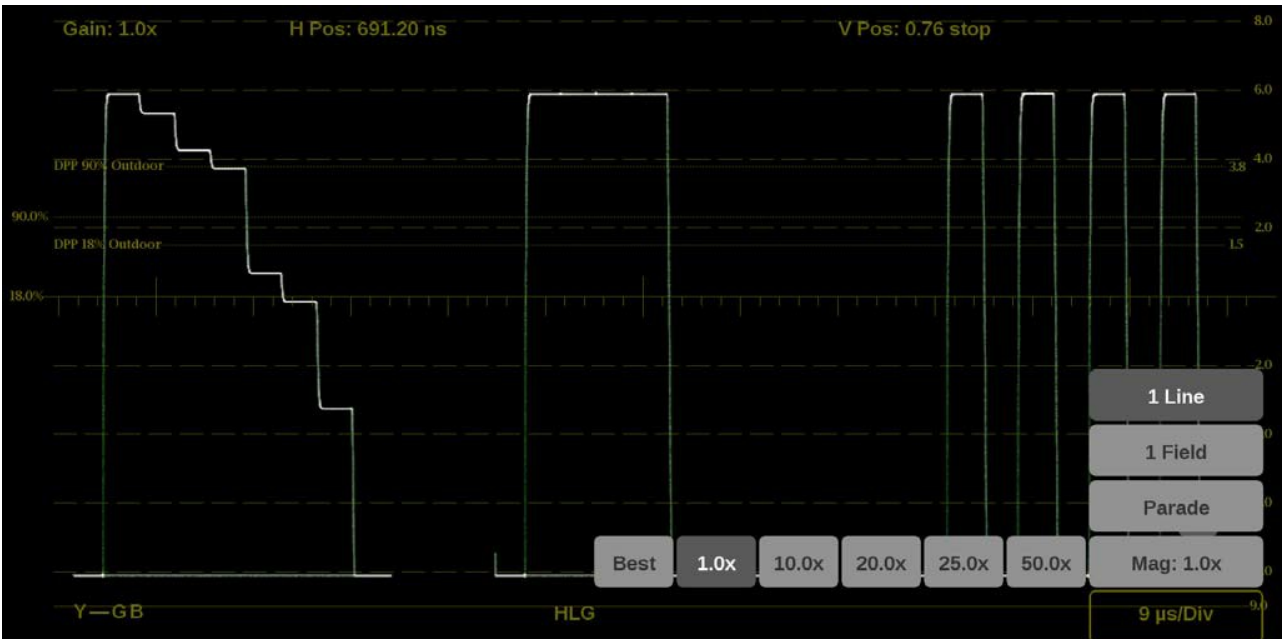

Figure 204: Stop Display on-screen tools – display format
1. Select the button in the bottom right corner of the application to expand the available display format options. (See Figure 204.)